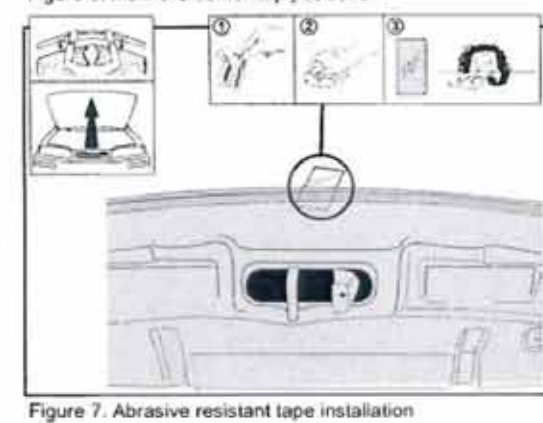

Figure 7. Abrasive resistant tape installation
7. Remove the Hood Protector and raise the hood. Clean the hood lip at the marked location with the alcohol wipe provided and wipe with a dry clean cloth. Adhere the abrasive resistant tape to the hood lip as per figure 7; half on the underside and half on the top of the hood.